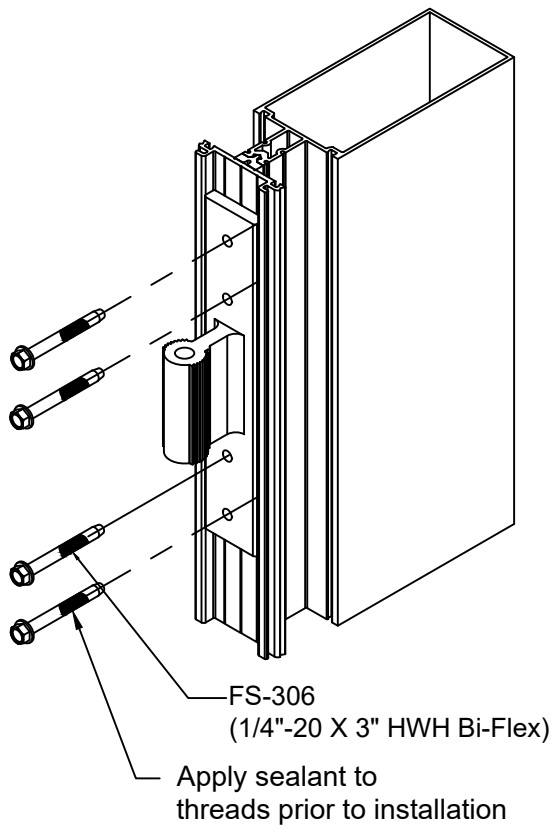

FIGURE 13
- 3) Coat lead threads of FS-306 (1/4"-20 x 3" HWH Bi-Flex) fastener with sealant and attach the SS-207 anchor by drilling into the front wall of the tubular section of the mullion. Tighten the bolts to 90 inch/lbs. (SEE FIGURE 13 & 14)